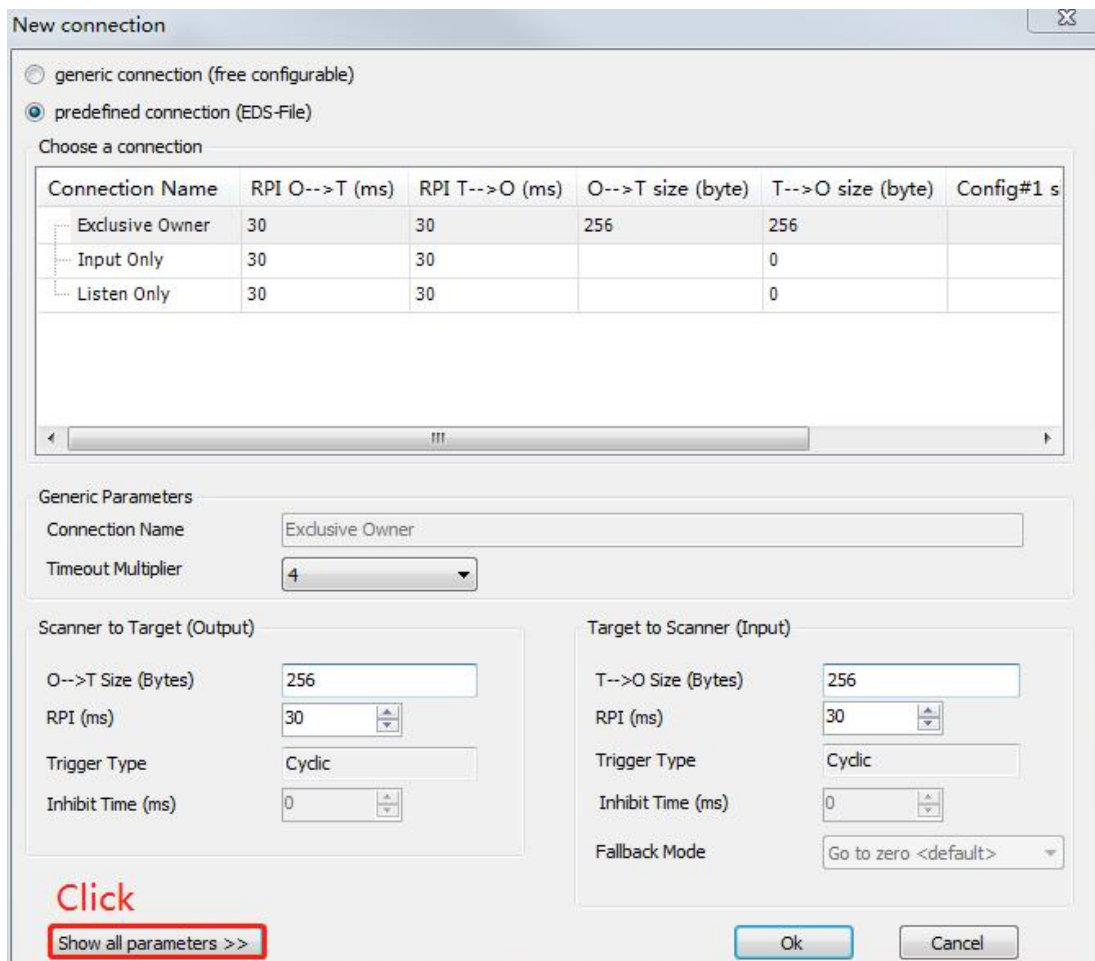

Figure 5-3-15
- As shown in Figure 5-3-15, create a new connection, edit the connection, and click "Show all parameters".